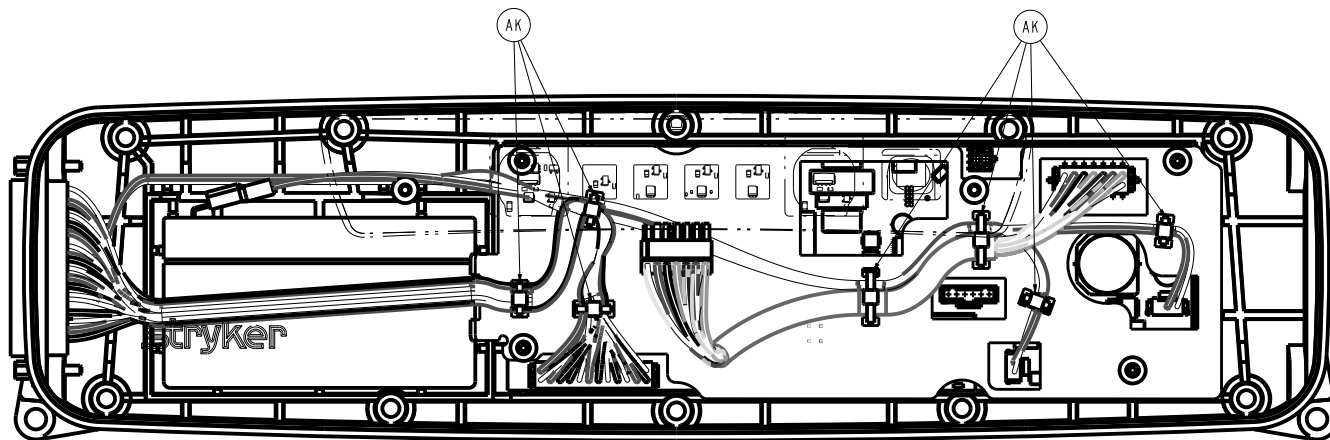

Figure 12 – Cable ties
11. Using wire cutters, cut the six cable ties (AK) that secure the power cable to the cable routing tray (Figure 12).
9. Using wire cutters, cut the three cable ties (AK) that secure the 37-pin cable to the cable routing tray (Figure 12).